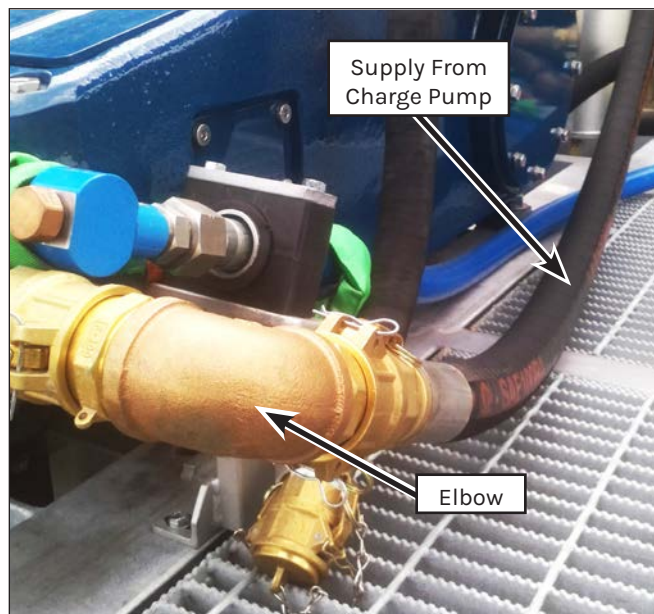

Figure 78: Supply Hose from Charge Pump.
1. Remove the supply hose (Figure 78) (supply from charge pump) from the suction elbow fitting on the 15K/20K manifold.